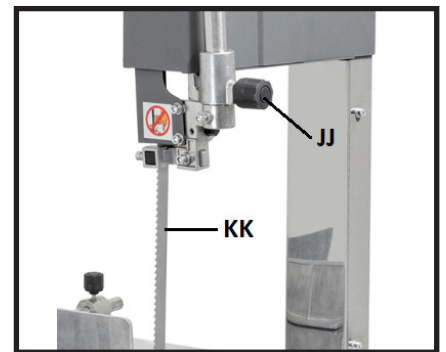

Figure 18
Adjust the vertical placement of the Blade Guard so there is a maximum 1/2" space between it and the top of the meat to be cut. To adjust the Blade Guard, loosen the knob (JJ) on the Blade Guard and raise or lower it to expose more or less of the blade. Once in the desired position, tighten the knob. **NOTE:** There is a flat side on the Guide Post (KK) that must face the knob to work properly. (Figure 18)